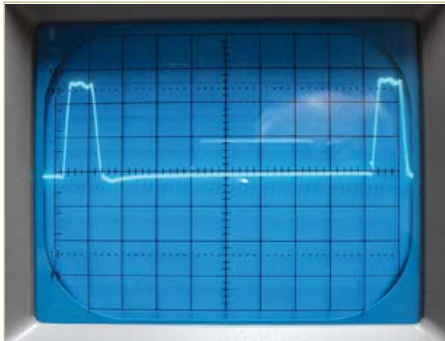

Figure 3. Pulse generator output.
**Figure 3** shows the generator's output when fed directly into a scope and no cable. The scope was set to a vertical sensitivity of 5 volts per division, and a horizontal sweep speed of 0.1 μs per division,